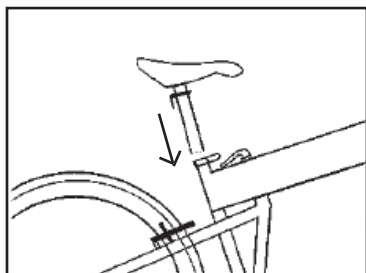

Fig. 3: Seat Post Installation
1. Loosen seatpost quick release lever (Fig. 3).